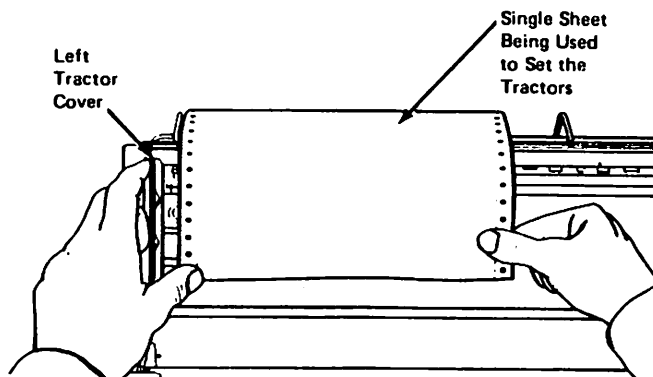

Figure 20 Installing form in left tractor
2. Open the top cover of the left tractor, tear off one form from the paper, mark the center of the form, insert the form on the pins of the left tractor, and close the cover (Figure 20).